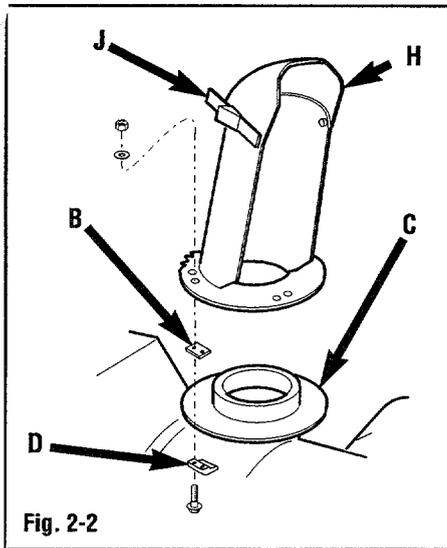
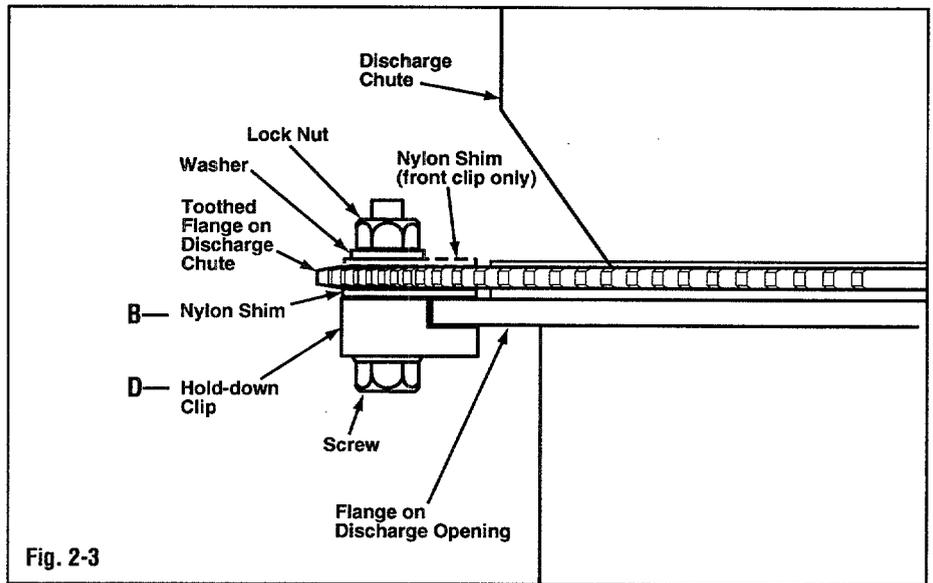

Fig. 2-2
Fig. 2-3
2. Remove the shims and clips (B and D, Fig. 2-2) from the sides of the discharge chute. Loosen, but do not remove the front shim and clip.
3. Apply multi-purpose grease to the top surface of the discharge chute flange (C).
4. Position the discharge chute onto the discharge chute flange on the auger housing, with the front hold-down clip (Fig. 2-3) hooked under the flange, and the nylon shim on top of the hold-down clip against the top of the toothed flange.
5. Rotate the discharge chute opening so it is facing to the right. Install the nylon shim (B, Fig. 2-2) and hold-down clip (D) on the left side of the chute as shown in Fig. 2-3.
5. Rotate the discharge chute opening so it is facing to the left. Install the nylon shim (B, Fig. 2-2) and hold-down clip (D) on the right side of the chute as shown in Fig. 2-3.
3. Move the discharge deflector cap (H, Fig. 2-2) upward by pulling out lever